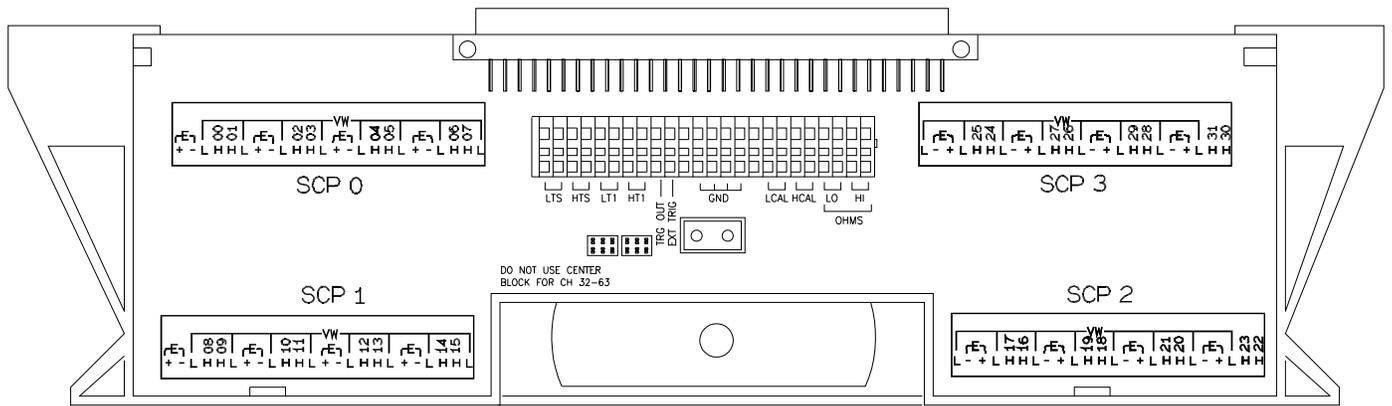

Figure 6 . VT1506A/07A B-Size Terminal Module Connections (Ch. 00 - 31)
- For Agilent/HP E1313 Terminal Modules, use stickers for Agilent/HP E1506A/07A SCPs. The connections are shown in Figure 6 and 7.